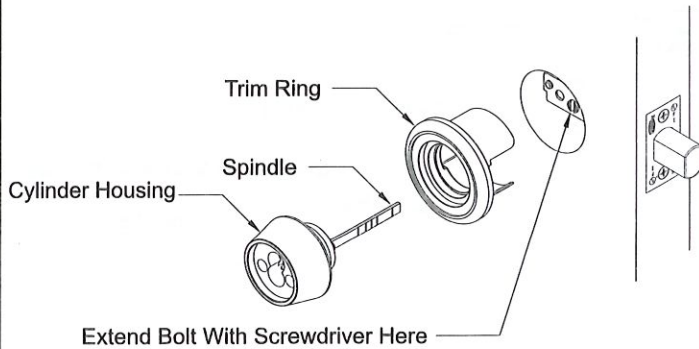

Figure 6
- Install the cylinder housing and trim ring with the spindle in the vertical position as shown in Figure 6.